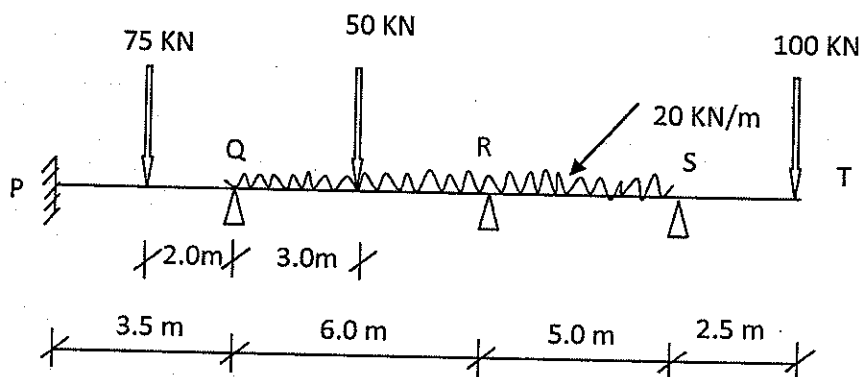

Fig: 2 Continuous Beam
2. Analyse the continuous beam as shown in Fig.2 by **Moment Distribution Method** and draw the final bending moment and shear force diagram.  $E = 3.0 \times 10^4$  MPa. The depth of beams PQ, QR, RS and ST are 300 mm, 500 mm, 400 mm and 350 mm respectively. The width of all the beams are 250 mm.